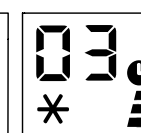

Fig. 6
- Press several times until the corresponding time is displayed. Wait about 5 seconds, the timer will be active. then only the  symbol is displayed on screen. (fig 6)